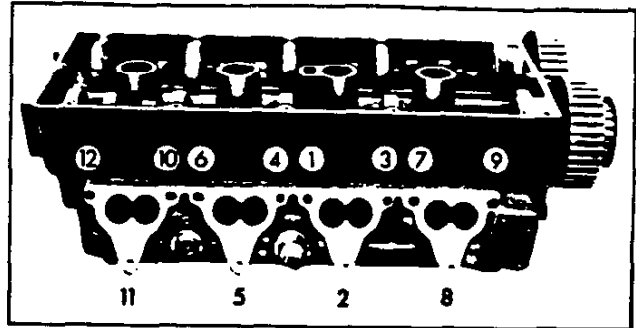

Fig. 20—Intake Manifold Bolt Torque Sequence
14. Apply an approved anti-seize compound to threads of all manifold bolts; install and torque manifold bolts and nuts to specifications (Fig. 20).